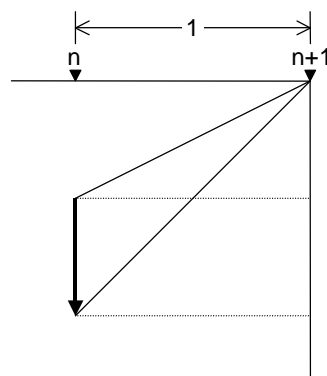

Fig. 2.3
- (3) Fig. 2.3 contains a machine position that is placed in the negative direction with respect to the reference position. Assume that feed from division point $n+1$ to n by the division interval is executed. In this case, the following value is defined as the compensation amount: